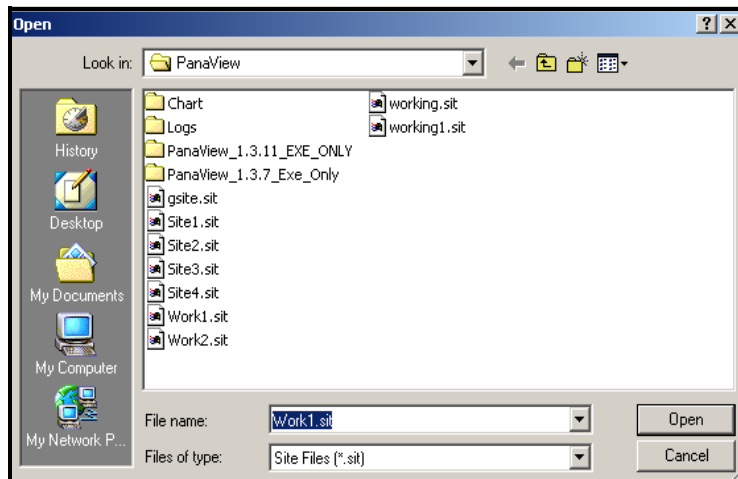

Figure 50: Site File Selection
2. Then click on the [Save Site to Meter] button. A screen opens similar to Figure 50.
2. Click [Save Site to PC]. A window opens similar to Figure 50 on page 66.
3. The *Site File Selection* window (as in Figure 50 on page 66) opens. Enter the desired site name (now with a .prt suffix) and click on [Save]. PanaView displays a text version of the site, as shown in Figure 52.